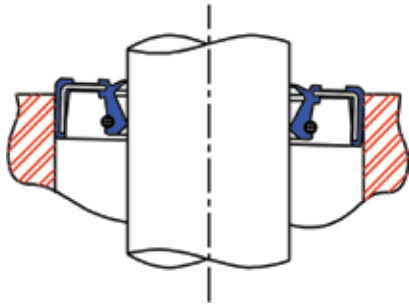

Fig. 1
1. Seal cocked in assembly (Fig. 1)